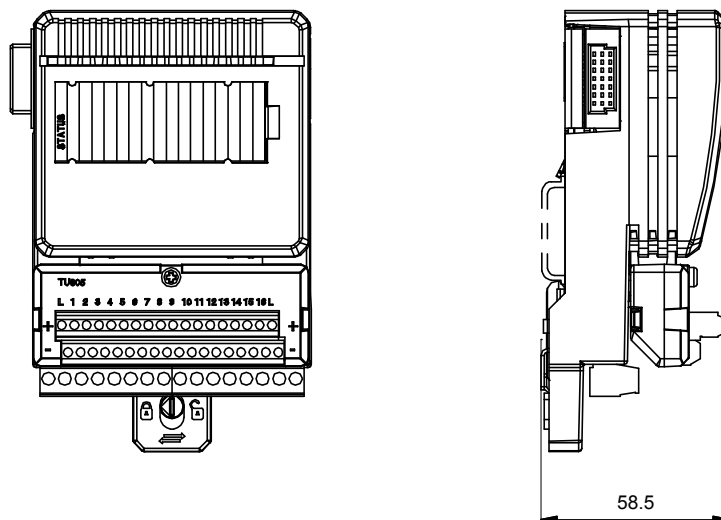

Figure 17. S800L Module with TU805
- as accessories to 24 V DI/DO modules, Terminal Unit TU805 enables 2- and 3-wires connections, see Figure 17.